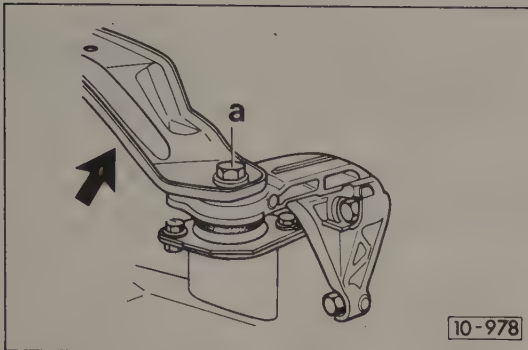

Fig. 6-16. Left transaxle mounting bolt **a** that needs to be removed. The arrow indicates the support arm.
10. Remove the center bolt from the left rear transaxle mount as shown in Fig. 6-16, then remove the two through-bolts and nuts holding the mount's support arm to the transmission.